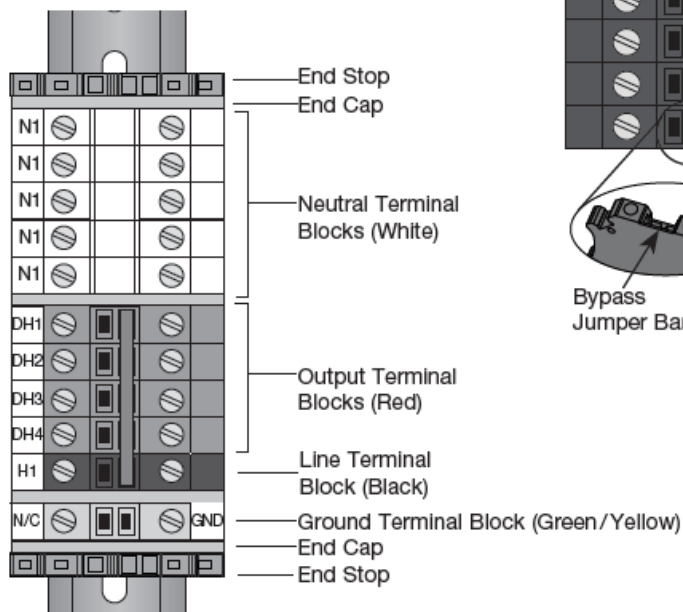

Figure 2
3. **Install terminal kit.** Components provided with PDT-T-DV-MF are shown in Figure 2. To properly install the kit, first remove the pre-installed bypass jumper from the red and black terminal blocks using the removal tool provided with the panel (Figure 3a). Remove upper end stop and labels from the dimmed line / hot (red) terminal blocks. The line / hot label will need to be broken from the strip and replaced (Figure 3b). Move the neutral terminal blocks (white) and separate the dimmed line / hot terminal blocks (Figure 3c). Install the provided kit as shown in Figure 4. Ensure the bypass jumper barrier in center of terminal block is oriented toward the bottom of the panel